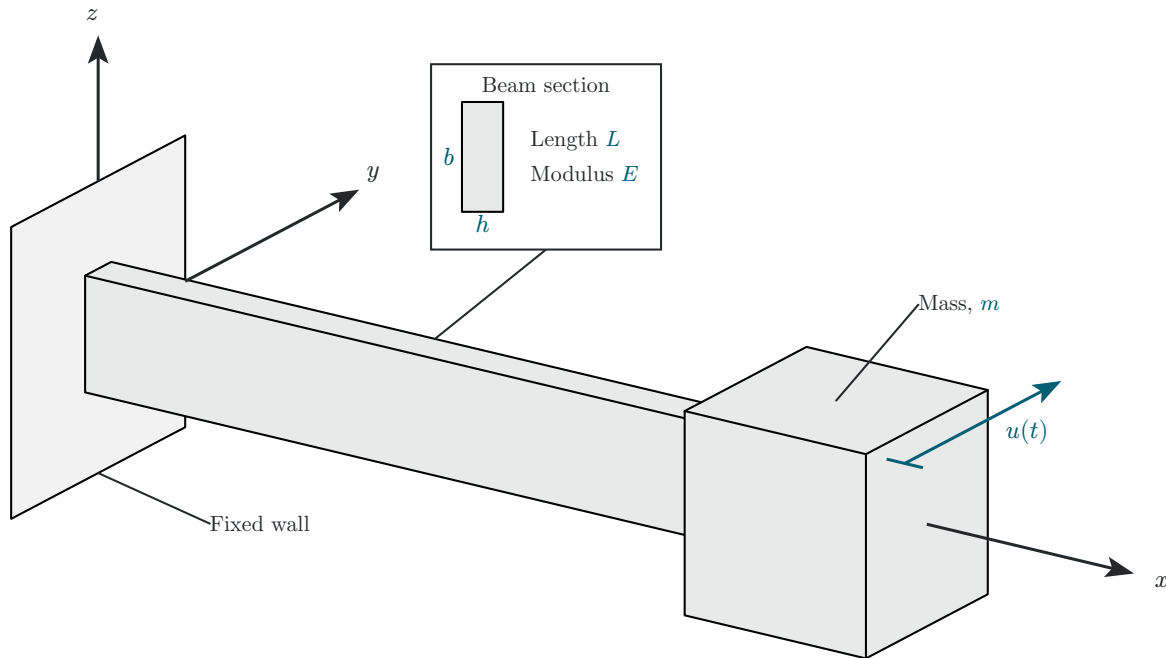

Figure 14: *Horizontal flex-beam vibrating system.*
Consider a cantilever beam of length L with a mass m attached at its tip as shown in Figure 14. The beam cross-section properties are E , h , b .
- (1) Assume vibration with horizontal time-varying displacement $u(t)$ as shown in Figure 14.
- (2) Calculate the cross-sectional stiffness EI of the beam for flexural deformation consistent with $u(t)$.
- (3) Calculate the flex-beam spring constant k .
- (4) Draw free-body diagram (FBD) including all the forces acting on the mass m .
- (5) Deduce equation of motion (EOM).
- (6) Compare the EOM deduced here with the EOM derived in Problem B.1.
- (7) Solve the initial value problem (IVP) and find the response for simultaneous application of both initial displacement u_0 and initial velocity $\dot{u}_0$.